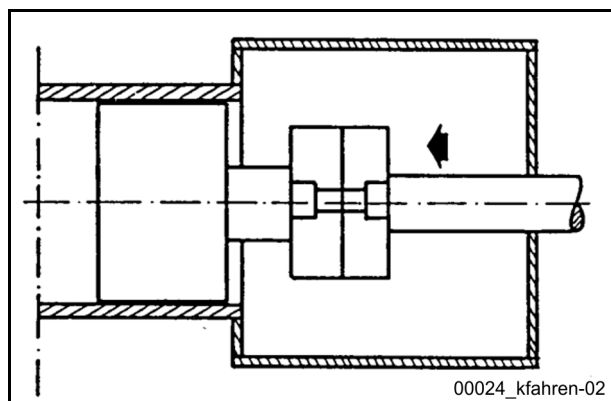

Fig. 192
- Move the pumping piston far enough into the cylinder that the screw connection can still be loosened (**Fig. 192**).